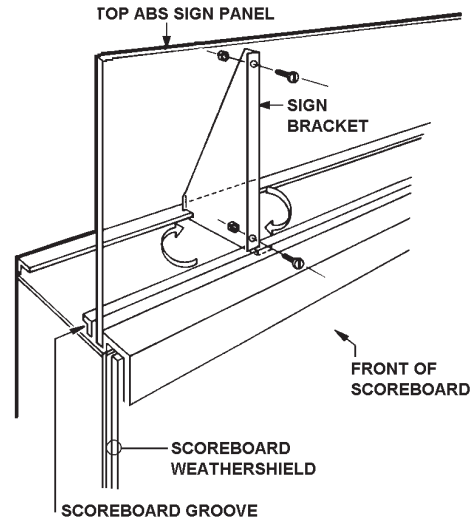

Figure 3-B Twist mounting bracket into place
- 3) Twist the mounting bracket one-quarter turn until it locks into place as shown in Figures 3-A and 3-B.